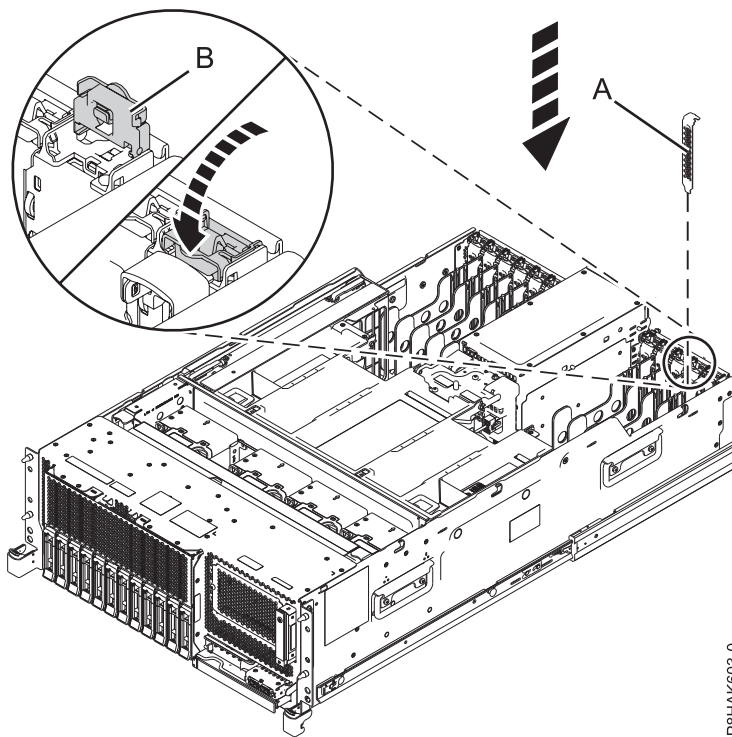
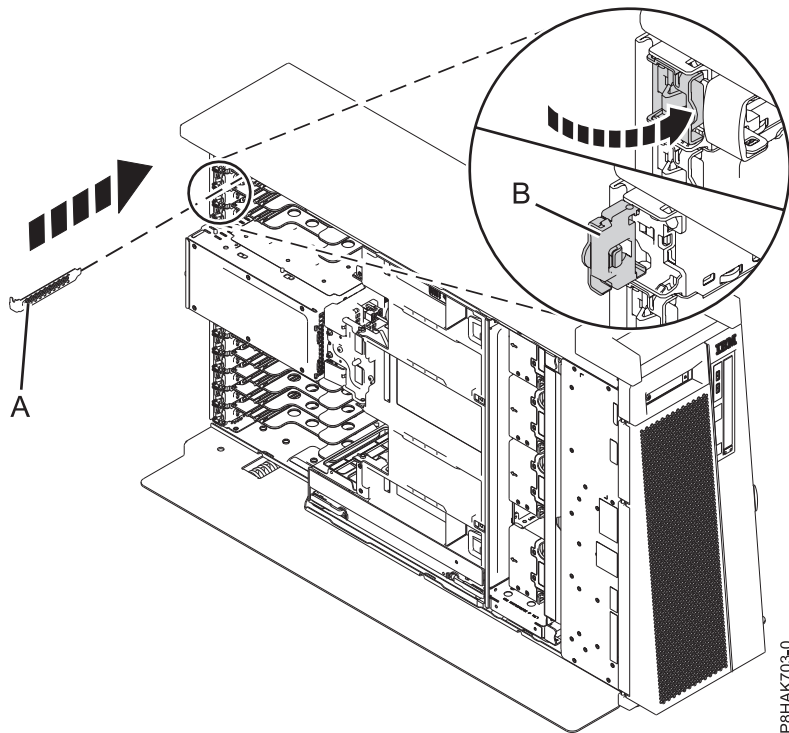

Figure 52. Installing a filler in a PCIe adapter slot in a rack-mounted system
Figure 53. Installing a filler in a PCIe adapter slot in a stand-alone 8286-41A system
- a. Carefully grasp the filler tailstock and align the filler with the slot and its connector on the system backplane, as shown in Figure 52 and Figure 53 on page 56.